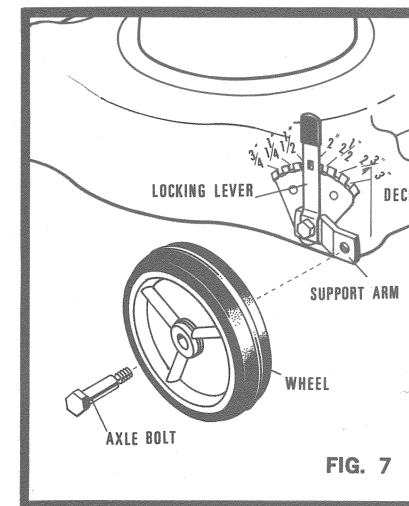

FIG. 7
1. Insert axle bolt through hole in wheel (Fig. 7).